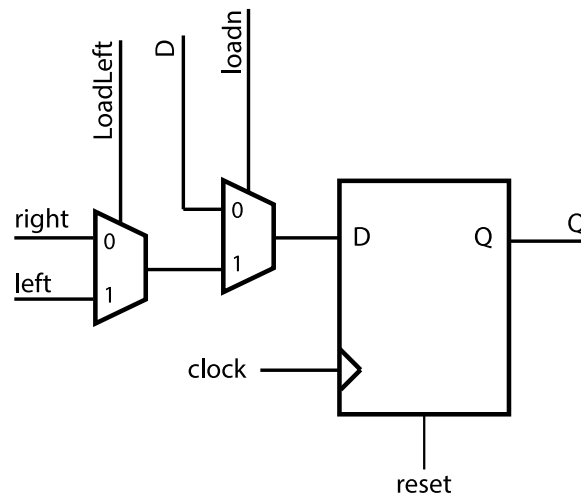
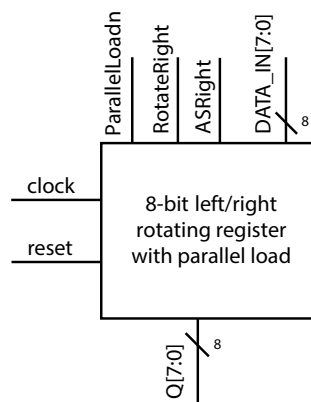

Figure 5: Sub-circuit for Part III.
Figure 6: Top-level circuit for Part III.
Figure 5 shows a positive edge-triggered flip-flop with several multiplexers. In this part of the lab, you will use eight instances of the circuit in Figure 5 to design a left/right 8-bit rotating register with parallel load shown in Figure 6.
The *LoadLeft* input of all eight instances of the circuit in Figure 5 should be tied to the single rotating register input *RotateRight* because when you want to rotate the bits right, you have to load the bit to the left. The *loadn* input of all eight instances should be tied to the single rotating register input *ParallelLoadn*. The *clock* input of all eight instances should be tied to the single rotating register input *clock*. Create an 8-bit-wide rotating register input *DATA_IN*, whose individual wires *DATA_IN₇* to *DATA_IN₀* are tied to the *D* input of each instance of the circuit in Figure 5. Likewise, create an 8-bit-wide rotating register output *Q*, whose individual wires *Q₇* to *Q₀* are tied to the *Q* output of each instance of the circuit in Figure 5.
The remaining connections between the eight instances of the circuit in Figure 5 should realize the following behaviour:
1. Draw a schematic for the 8-bit rotating register with parallel load. Your schematic should contain eight instances of the sub-circuit in Figure 5 and all the wiring required to implement the desired behaviour. Label the signals on your schematic with the same names you will use in your Verilog code.
2. Starting with the code in Figure 2 for a flop flop, modify it to have an *active-high* synchronous reset. Combine this new flip flop with instances of the *mux2to1* module from Lab 2 to build the sub-circuit shown in Figure 5. To get you started, Figure 7, is a sample of hierarchical code showing the D flip flop with one of the 2-to-1 multiplexers connected to it.
4. Write a Verilog module for the rotating register with parallel load that instantiates eight instances of your Verilog module for Figure 5. This Verilog module should match with the schematic in your lab book. Use SW_{7-0} as the inputs $DATA_IN_{7-0}$ and SW_9 as a synchronous active high reset. Use KEY_1 as the *ParallelLoadn* input, KEY_2 as the *RotateRight* input and KEY_3 as the *ASRight* input. Use KEY_0 as the clock, but **read the important note below about switch bouncing**. The outputs Q_{7-0} should be displayed on the LEDs ($LEDR_{7-0}$).